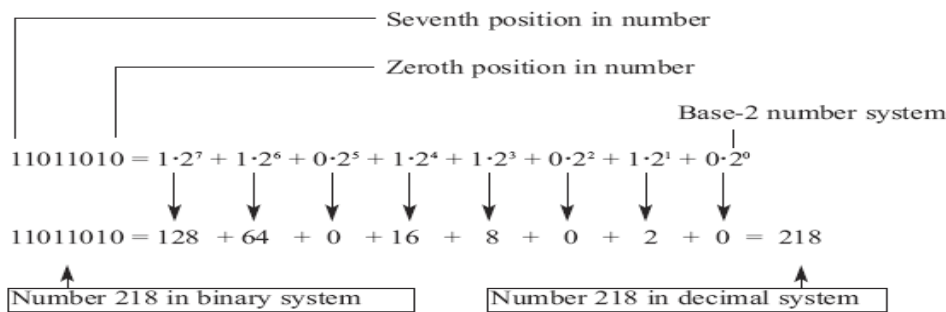

Figure 12 : The number 218 represented in binary and decimal system
Clearly, it is the same number represented in two different ways (Figure 12). The only difference is in the number of digits necessary for writing some number. One digit (2) is used to write the number 2 in decimal system, whereas two digits (1 and 0) are used to write that number in binary system. Do you now agree that there are 10 groups of people? Welcome to the world of binary arithmetic! Do you have any idea where it is used?